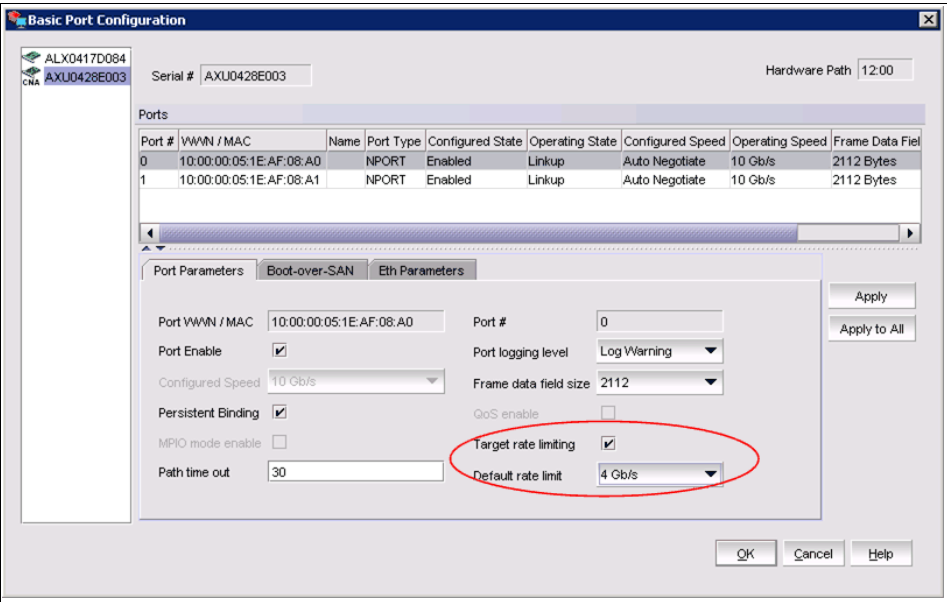

Figure 10-22 Target Rate Limiting
1. Select **Configure** → **Basic Port Configuration** from the Host Connectivity Manager; the Basic Port Configuration dialog box displays (Figure 10-22).